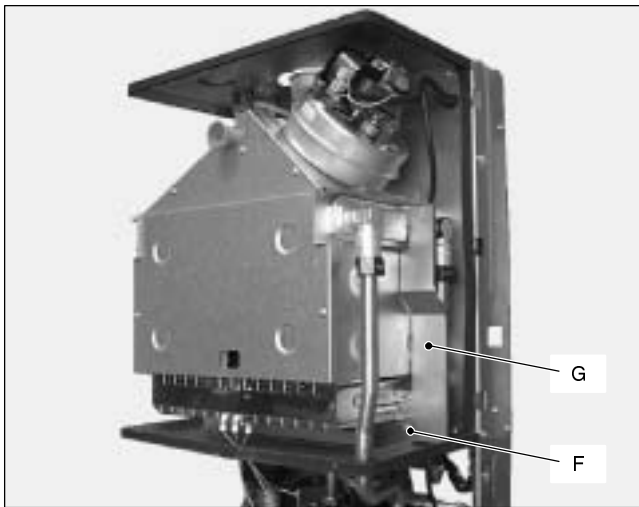

Fig. 68
- 4b For model M90.28S only, remove the screw *F* and the plate *G* (Fig. 68).
- 3b For model M90.28S only, remove also the plate G (see Fig. 68 on page 33).